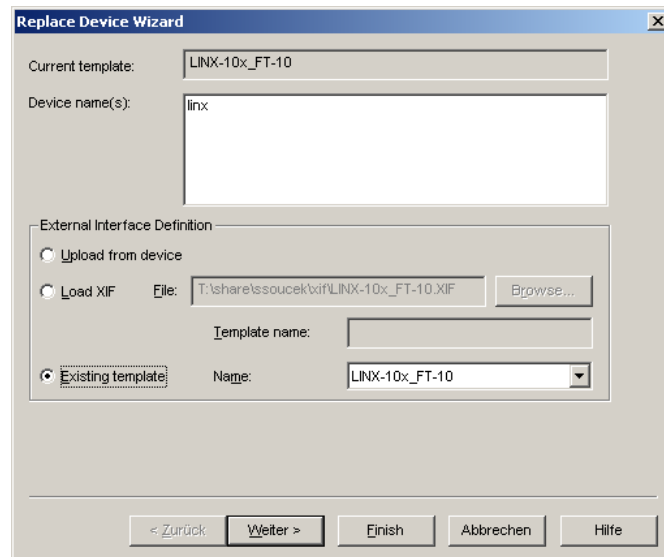

Figure 122: LonMaker replace device wizard.
2. Select **Commissioning** → **Replace....** This opens the LonMaker Replace Device Wizard as shown in Figure 122.